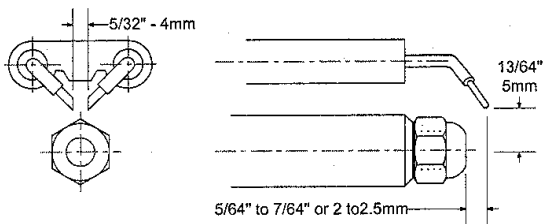

Figure 26: Electrode Setting
- Remove the NOZZLE ADAPTER (2) from the DRAWER ASSEMBLY by loosening the SCREW (1).
- Replace adapter, with nozzle installed, into drawer assembly and secure with screw (1).
4. **Inspect and measure burner electrodes.** Refer to Figure 26 for the proper electrode settings.